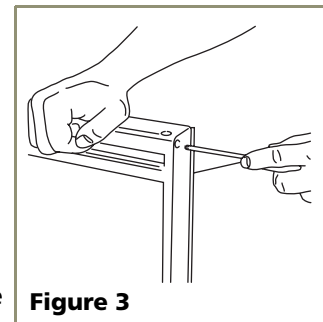

Figure 3
3. Remove two outside screws holding door handle. Slightly separate door handle from door (see **Figure 3**).